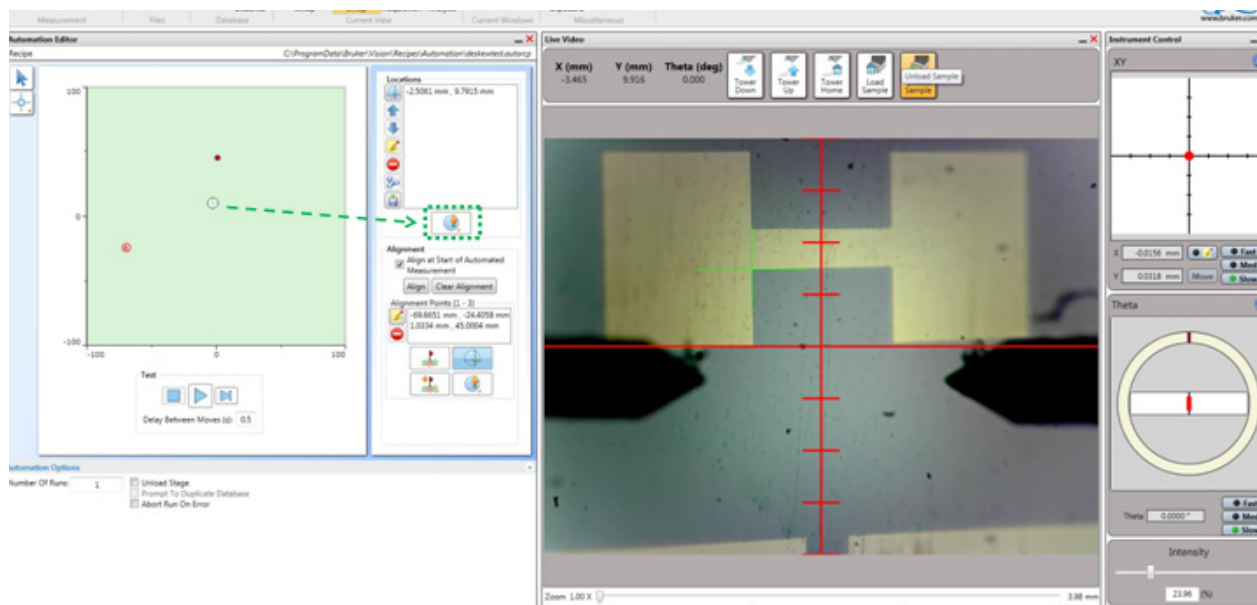

Figure 4-14: Setting a Deskw Measurement Point
- c. In the Automation Editor, click the **Measurement Site** button. A number outlined by a green circle now appears at that location (see Figure 4-14).